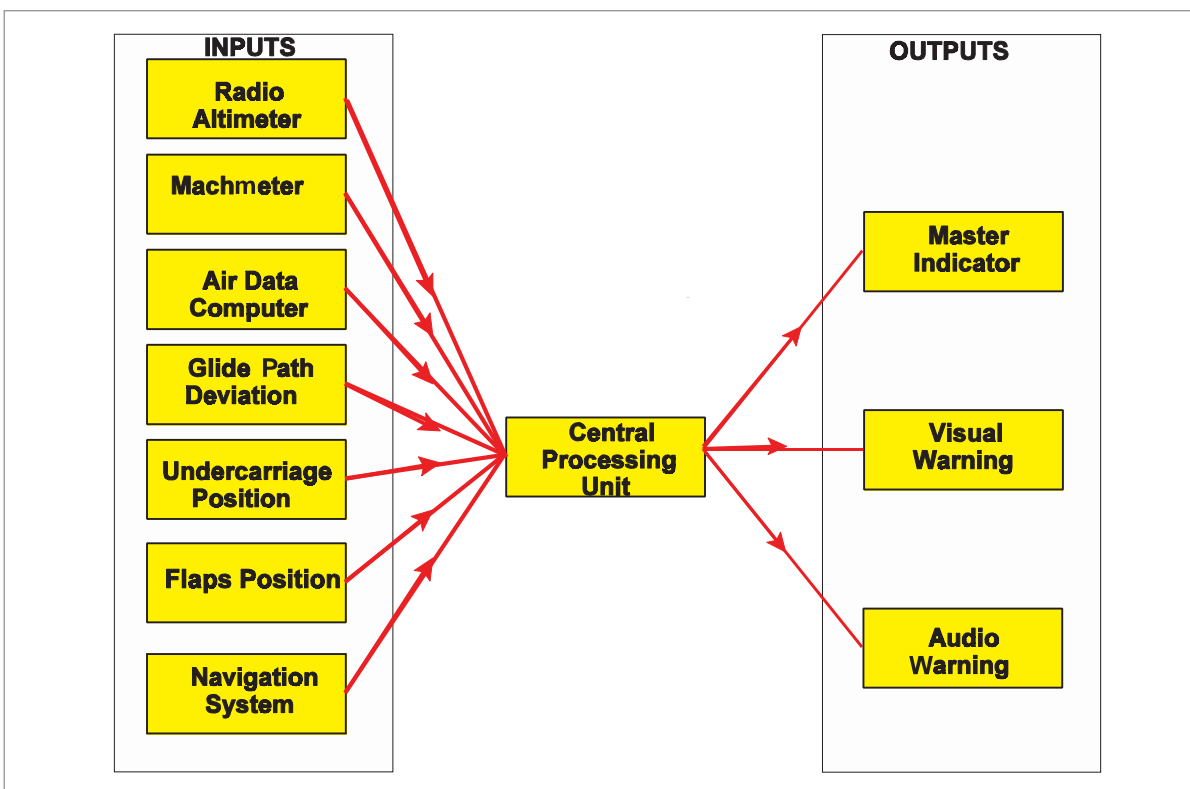

Figure 34.1
*Figure 34.1* shows the three elements of a GPWS: inputs, outputs and a central processing unit. The central processing unit will also indicate a computer failure and any failures of the six input signals. The system operates between **50' and 2450' actual height above the surface** and automatically selects the correct mode of operation.